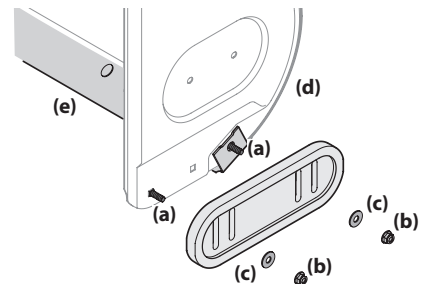

Figure 2-50
1. Using the two carriage bolts (a) and hex flange nuts (b) and flat washers (if equipped) (c), secure the skid shoe to the auger housing (d). Hand tighten hex flange nuts. See Figure 2-50.